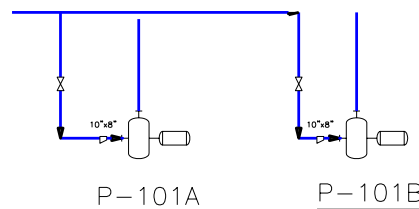

Figure 2-80 A gate valve and an eccentric reducer placed on the line connecting the second pump
5. Similarly, place an eccentric reducer and a gate valve on the pipe connecting the other pump, as shown in Figure 2-80.